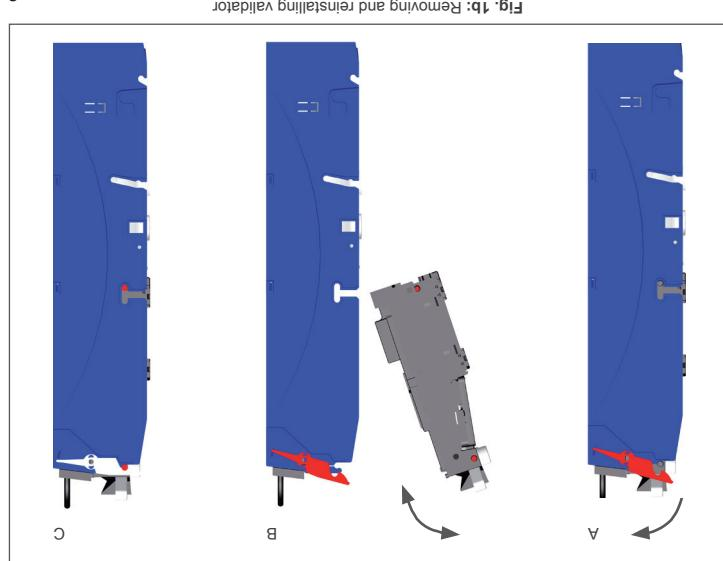

Fig. 1b: Removing and reinstalling validation module
- 3 Lift up the lever and then swivel out the coin validator (Fig. 1b).
- 2 Lift up the lever and then swivel out the coin validator (Fig. 1b).
- 4 Swivel the coin validator in again and let it engage (Fig. 1b).